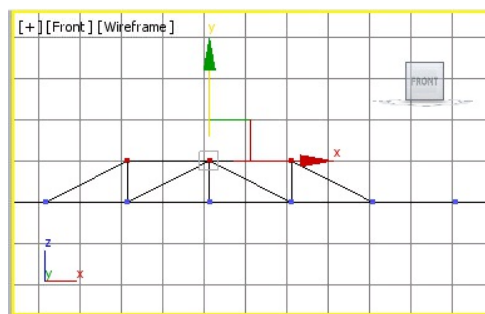

Figure 11-86 The selected vertices dragged up in the Front viewport
6. Activate the Front viewport. Move the cursor over the vertical axis and drag the selected vertices up by one grid point, refer to Figures 11-86 and 11-87.